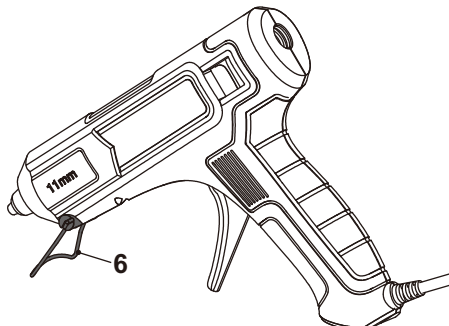

Fig. 2
2. Place the glue gun on a stable, level surface by using its stand holder (6) as shown in Fig. 2 when not in use.